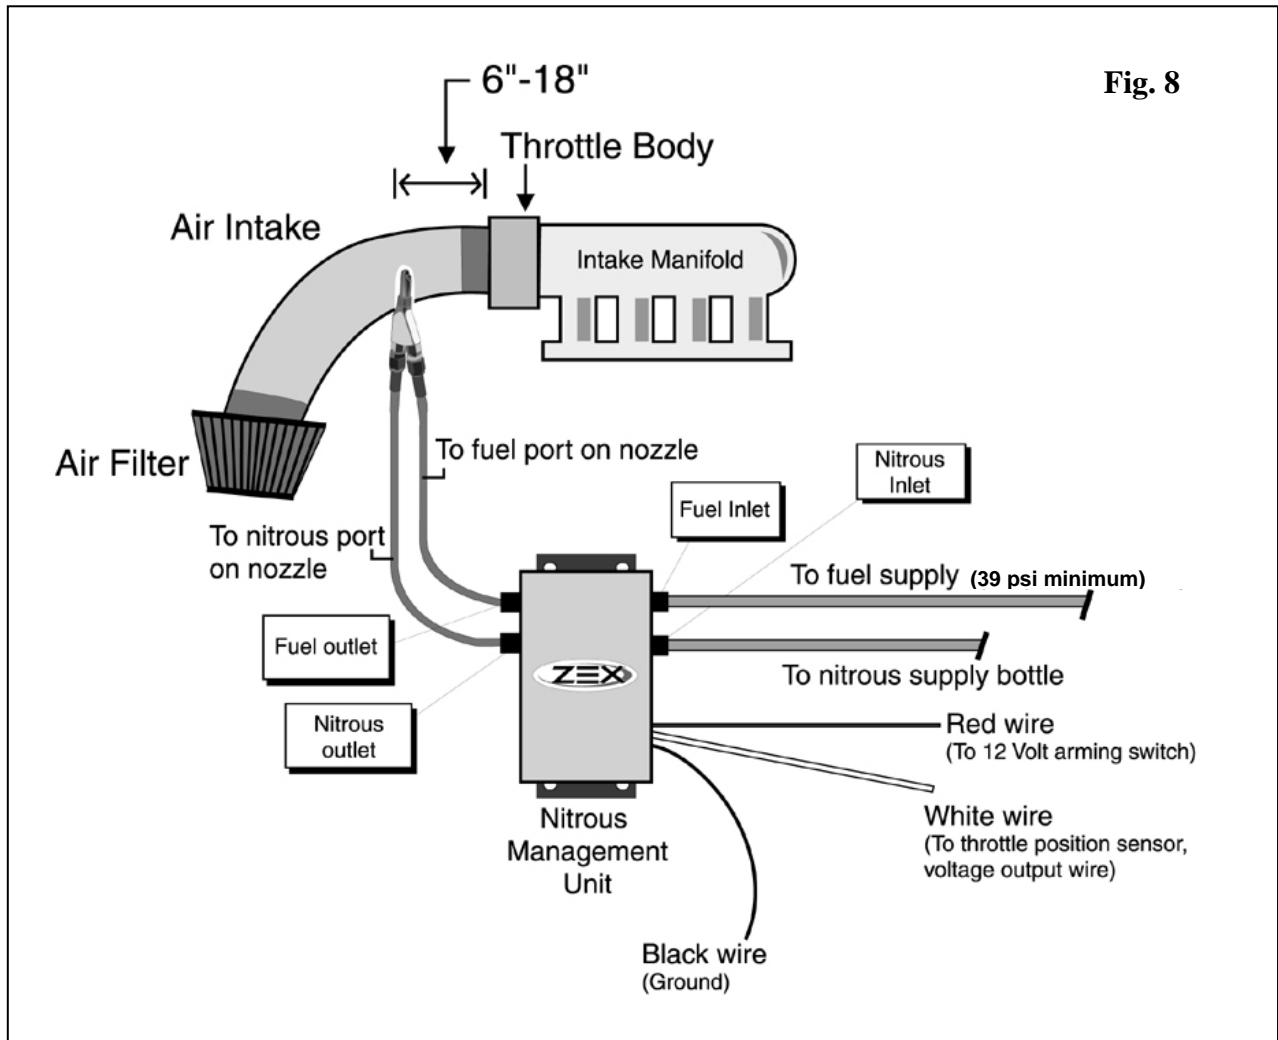

Fig. 8
- 5. Install Nitrous Nozzle** - Optimum nozzle placement is 6" to 18" from the throttle body; refer to Fig. 8 for the ideal nozzle location. This range of distance gives the nitrous, fuel and air, the proper time to mix before it enters the intake manifold plenum. Remember, nitrous nozzles must always be mounted after the mass airflow sensor, never before them. After you have determined where to mount the nitrous nozzle (Fig. 6) in the intake, make sure this location won't interfere with other components. After you've found the spot, mark it and remove the air inlet duct from your engine. Drill a 9/16 inch mounting hole and install the bulk head fitting. Be sure to remove any drill shavings since they can severely damage your engine if injected. Install the nitrous nozzle so that the spray is in the direction of airflow. We've also enclosed a tap (Fig. 6) should you desire to mount the nozzle directly into a metal air intake tube. Just drill an 11/32 inch hole where you want to thread-in the nozzle, tap the hole and install the nozzle. Once installed, place the appropriate tuning jets in the nozzle and attach the 2-foot long, -3AN hoses to the nozzle jet fittings and the Nitrous Management Unit (Fig.5).
Connect one end of the TPS Resistor Wire to the vehicle's TPS voltage output wire. **On the tC, this is normally the solid BROWN wire on the TPS connector.** The correct TPS wire should have around .5 volts when the throttle blade is closed and around 4.5 volts when the throttle is opened fully. These are not exact voltage numbers, but simply give you an idea of the proper voltage you should be seeing. Connect the other end of the TPS resistor wire to the white wire from the Nitrous Management Unit. After these connections are completed, you need to install the arming switch/wire harness assembly. Find a suitable place in the interior of the vehicle for the arming switch and drill a 1/2 inch (.500) hole. Mount the switch and switch cover through this hole. Take the lead that the fuse assembly is attached to and find a suitable 12 volt accessory source of power under the dash. Use the T-tap electrical connector to splice into the 12 volt accessory wire and plug in the wire harness lead. Take the other lead from the arming switch and connect it to the red wire from the Nitrous Management Unit. As a reference for wire locations, use Fig. 8.